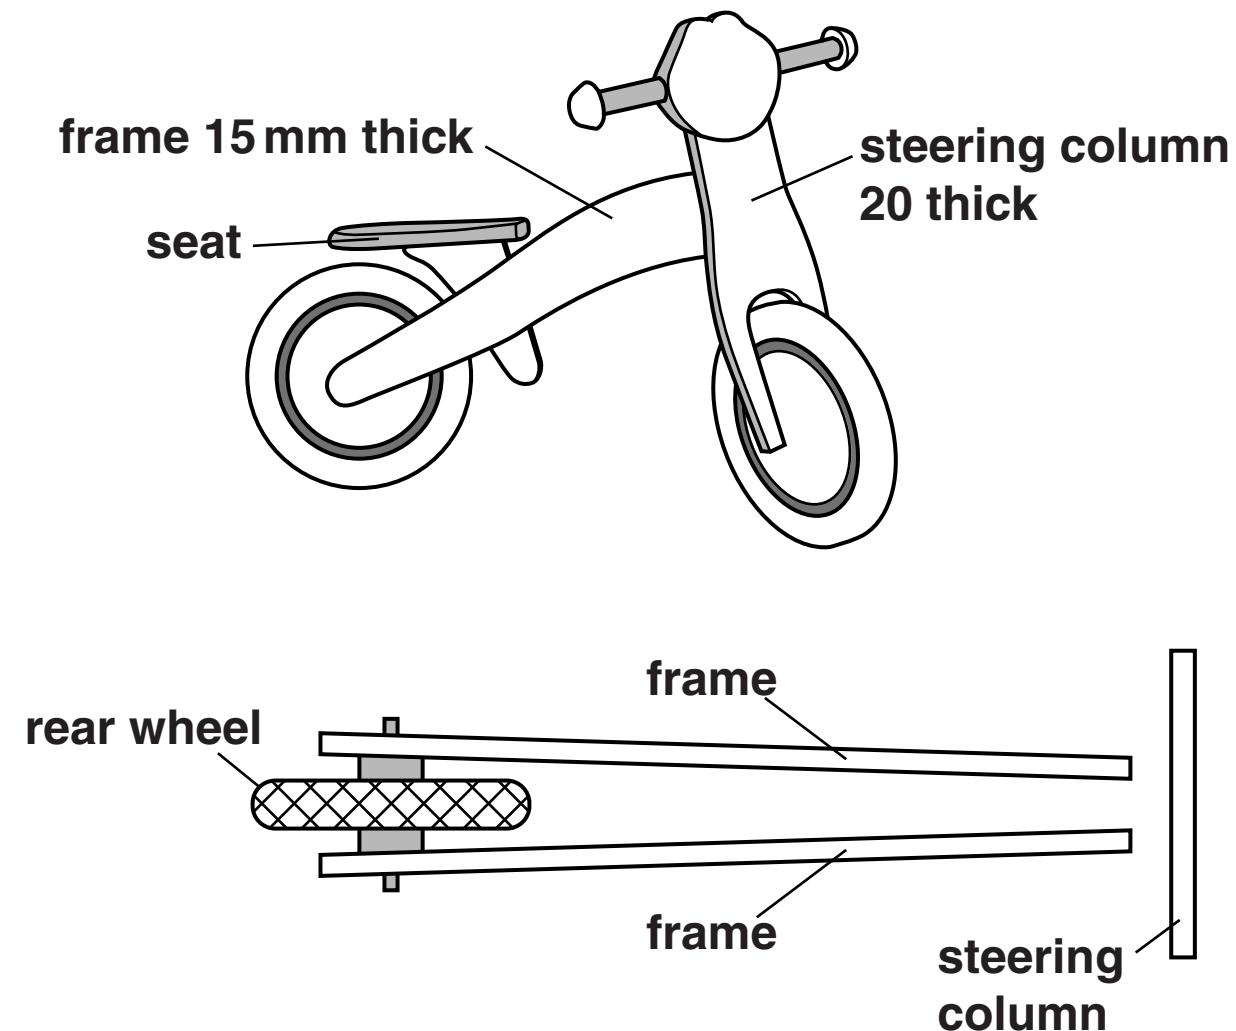

Fig. 4
- 3 Fig. 4 shows details of a sit-on toy made mainly from plywood.
(c*) Explain how CAD could be used to produce a set of instructions to enable customers to assemble the sit-on toy shown in Fig. 4.